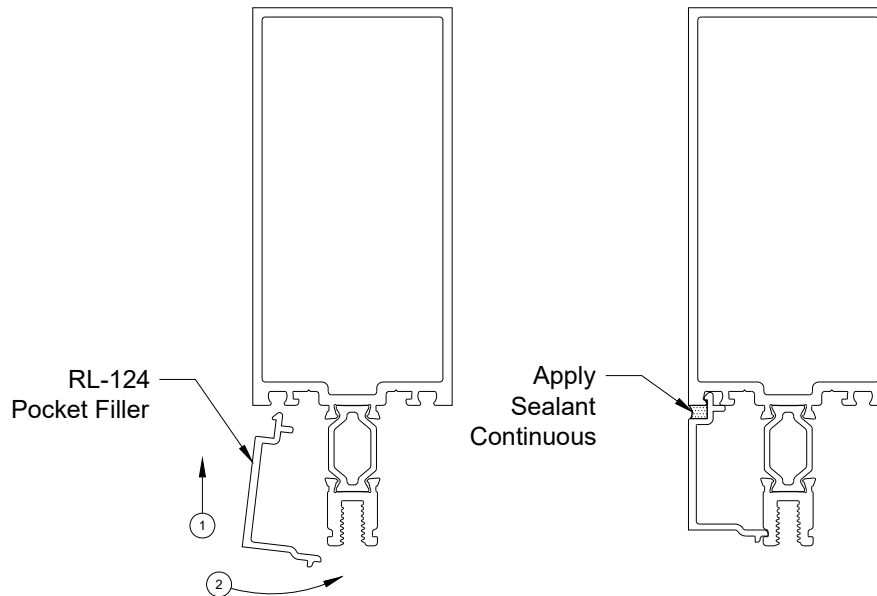

Figure 32: Pocket Filler Installation at Jamb
10.6 Insert **RL-124** Pocket Filler into gasket reglet and rotate to lock in place. See *Figure 32*.
10.7 Run a continuous line of sealant the full length of **RL-124**, as shown in *Figure 32*.